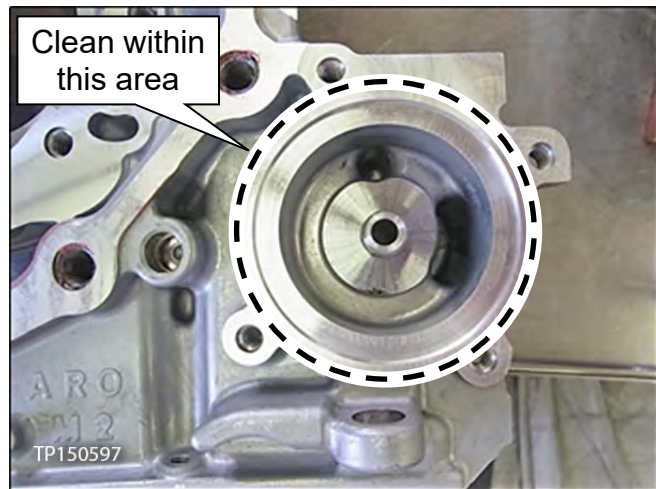

Figure 52
3. Clean the area where the CVT fluid filter fits (see Figure 52).